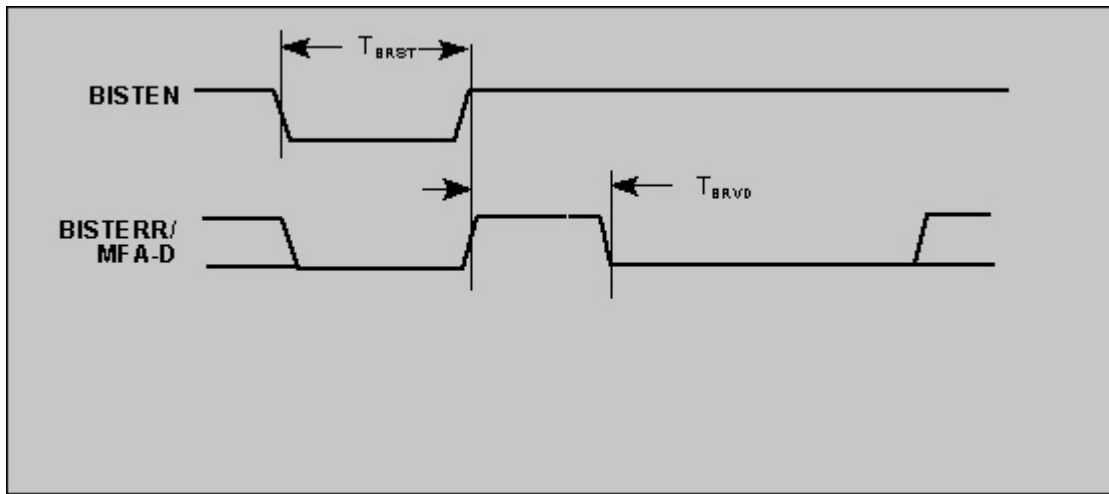

FIGURE 6-11. BIST ERROR FLAG TIMING
**TABLE 6-15. RESET AND BISTEN TIMING** (see Figure 6-11)